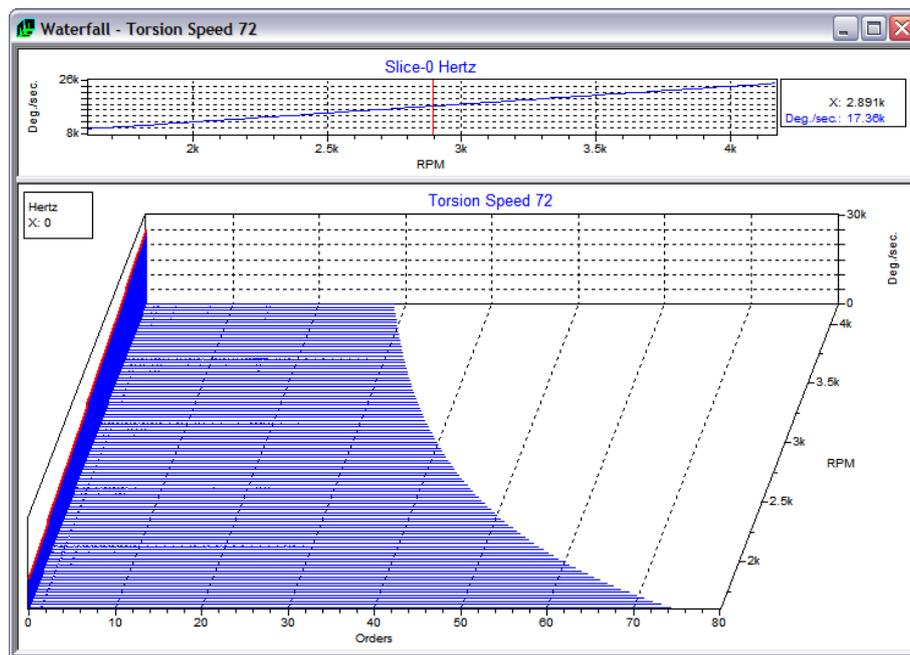

Figure 41: Torsion Waterfall
6. In the signal list window, select both the torsion file (\*.tor) and the smoothed speed curve (use <ctrl> left-click to select multiple signals), then click the <Waterfall analysis> button to create a Waterfall plot (shown in Figure 41). The amplitude axis for the plot is in degrees/second.